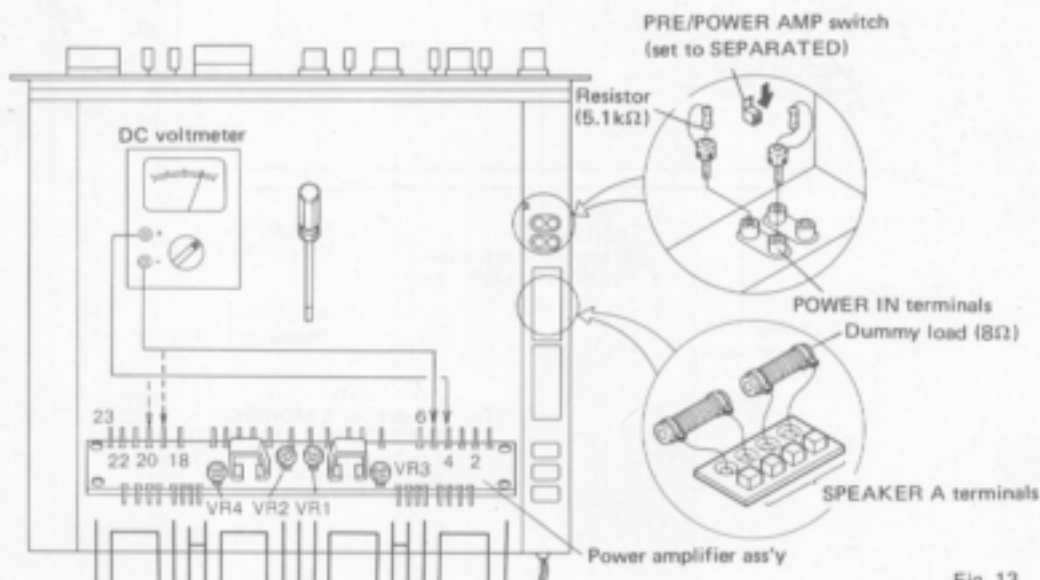

Fig. 13
- (1) Set the PRE/POWER AMP switch to the SEPARATED (lower) position.
- (2) Fit  $5.1\text{k}\Omega$  resistors to the POWER IN terminals as shown in Fig. 13.
- (3) Connect  $8\Omega$  dummy loads between the SPEAKER A terminals as shown in Fig. 13.
- (4) Set the SPEAKERS switch to position A. Turn on the POWER switch.
- (5) Connect a DC voltmeter (100mV/full scale) between pins 4 and 5. Adjust VR1 until the voltmeter indicates 0V.
- (6) Connect the DC voltmeter between pins 20 and 19. Adjust VR2 until the voltmeter indicates 0V.